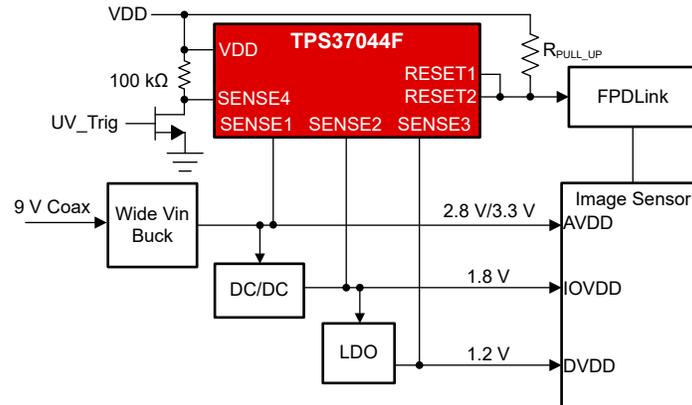

图 9-4. TPS37044F Quad-Channel Monitoring With Manual Self-Test Option for Functional Safety
图 9-4 displays a self-test scheme where a manual self-test function can be implemented. Any SENSEx pin can be reserved and used to trigger a fault to be observed at the output, thus pre-checking the TPS3704 for fault detection. TPS3704 is a functional safety compliant multichannel supervisor and enables applications such as factory automation and motor drive achieve IEC 61508 requirements and industrial safety integrity levels. This example uses a TPS37044F, configured for separate undervoltage and overvoltage (UV/OV) outputs where the SENSE4 thresholds are set at 5.5 V for OV and 2 V for UV.
图 9-4 shows a self-test scheme where a manual self-test function can be implemented. SENSE4 has an overvoltage (OV) threshold that is set at 5.5 V and the undervoltage (UV) threshold set at 2 V. SENSE4 can be connected via a 100-k $\Omega$  resistor to VDD. The self-test setup gives the added benefit of a built-in overvoltage detector for the rail powering the TPS37044F. From a functional safety perspective, a voltage supervisor cannot be considered reliable if the supervisor is operating outside its recommended operated limits.